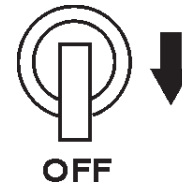

Figure 17. GFCI Circuit Breaker (OFF)
4. **NEVER** start the engine with the **GFCI** circuit breaker in the **ON** position. Always place circuit breaker (Figure 17) in the **OFF** position before starting the engine.